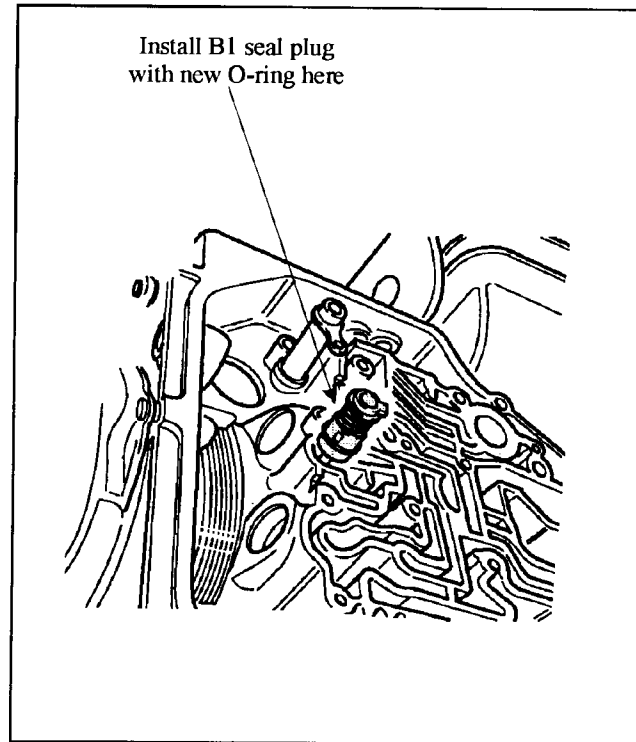

Figure 164
36. Install two new O-rings on the B1 seal plug and insert the seal plug into the case in the location shown in Figure 164.